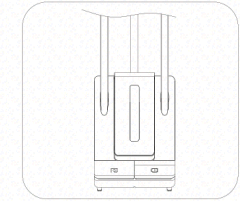

Fig. 17
- Close the water tank cover, put the water tank on the body. Fig.17